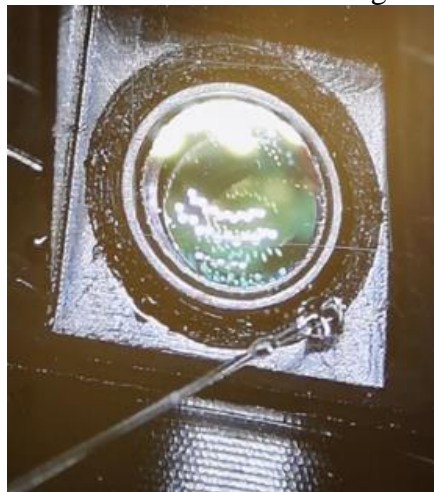

Fig. 5: Splice protector sleeve with a drop of UV glue being released on the gap between the miniscope and the scan lens.
- ✓ Apply small drops of UV glue in the gap around the lens with a splice sleeve (Fig.5)